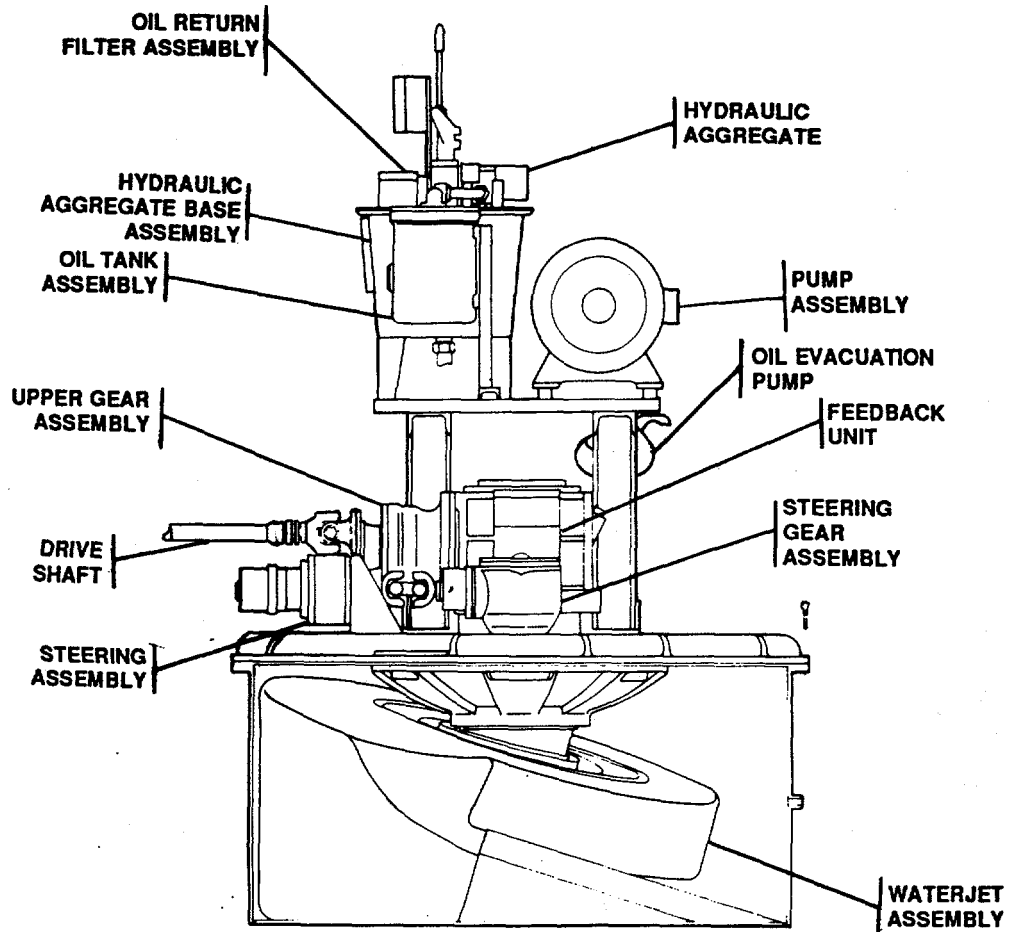

FIGURE 1-1. Model SPJ-55 Bowthruster Waterjet.
b. Name of equipment: Bowthruster waterjet, Model SPJ-55 (FIGURE 1-1) installed aboard the LCU 2000 Class watercraft.